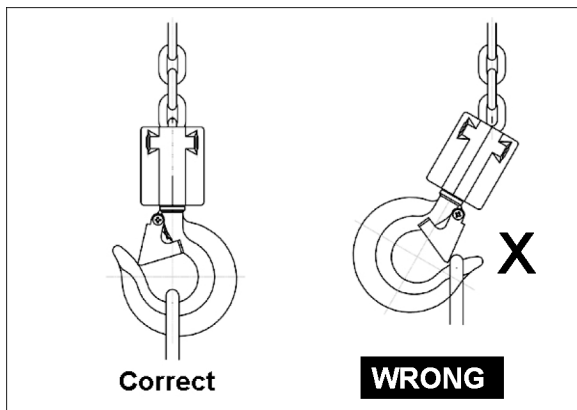

Figure 12-2
2. Place load sling or chain in center of bottom hook, making sure the safety latch is secure. **Never load the hook in front of the safety latch.** See Figure 12-2.